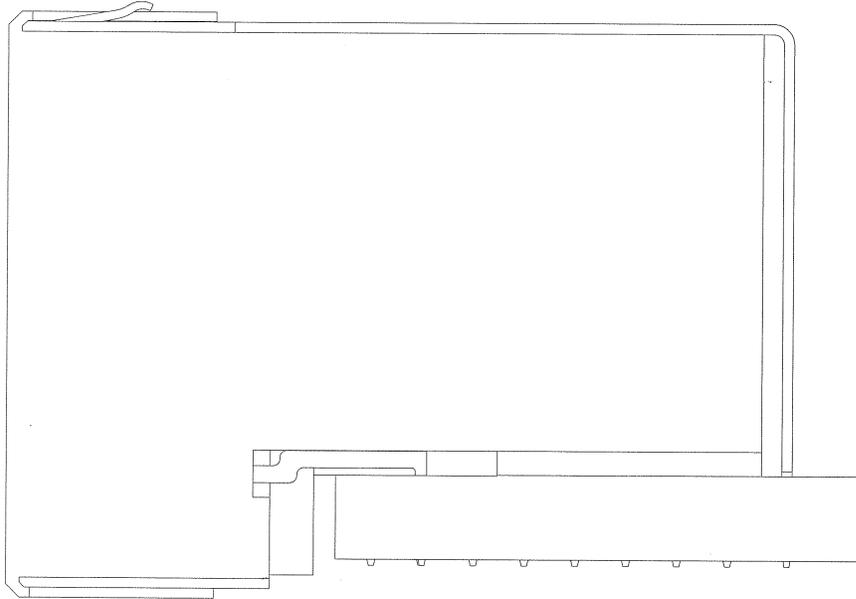

Figure 16 -- Proper Receptacle (header) assembly
- Visually assure that the plastic standoffs on the bottom of the assembly are seated within 0.13 mm of flush to the PCB but not crushed (see Figure 16). A larger gap beneath the standoffs may indicate that the receptacle (header) is not seated parallel to the board. This can cause receptacle (header) misalignment with adjacent Millipacs[®] HM components.